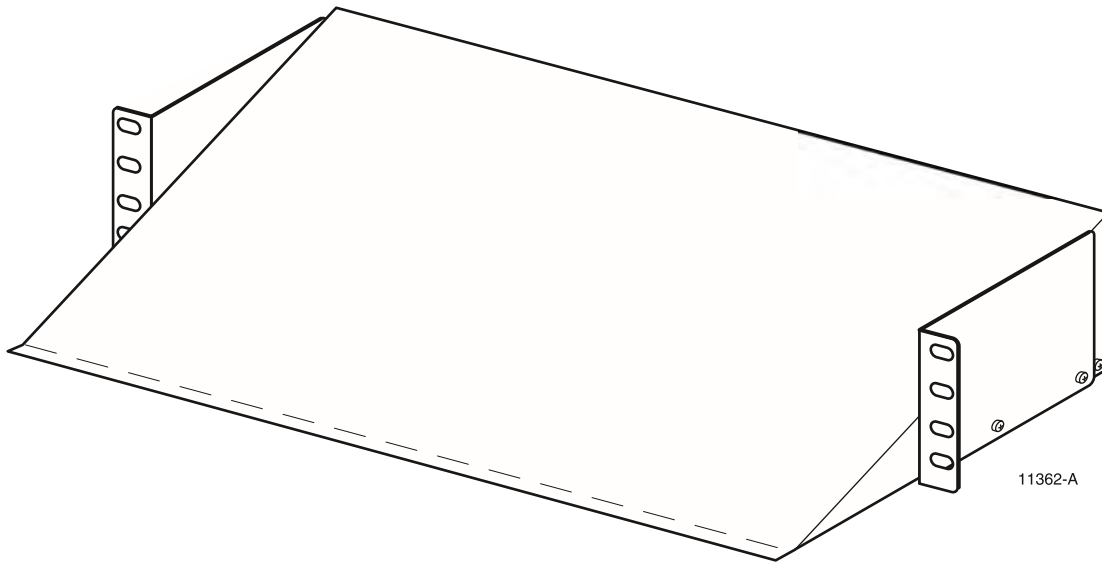

Figure 4-3. HDT Baffle - Front View
1. Place the HDT baffle, shown in Figure 4-3, in position for mounting below the HDT mounting shelf. If several HDTs are mounted consecutively in the same rack (see Figure 4-1), position the baffle below the lowest HDT in the rack.